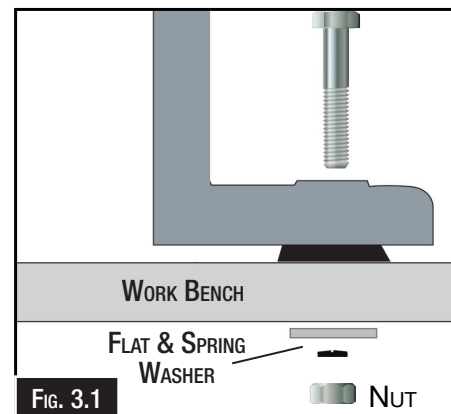

Fig. 3.1
2. Insert bolts through the holes, and tighten using flat and spring washers and nuts. (Fig. 3.1)